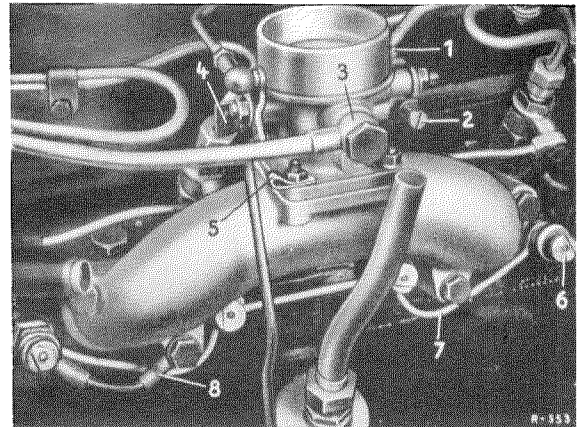

Fig. 07-21/1
3. Unscrew the vacuum line (3) on the throttle duct (Figure 07-21/1).
For engines with wire cable for the idling control, the clamp (5) must be fixed with the front nut (Figure 07-21/1).
7. Connect the vacuum line (3) to the throttle duct, if necessary, use new seal rings (Figure 07-21/1).